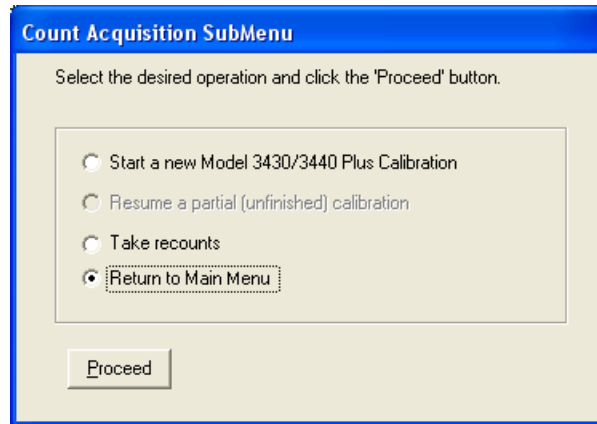

Figure 3–12. Count Acquisition SubMenu, after Calibration Counts are Complete
19. Now that the drift test has passed, the calibration data collection is complete. The **Count Acquisition SubMenu** will again be displayed with the options shown in Figure 3–12. From the **Main Menu** you will be able to initiate the process of reviewing the data just collected. Select the fourth option, **Return to Main Menu**, click **(P)roceed**, and then proceed to the next section, *Computing Calibration Constants*.